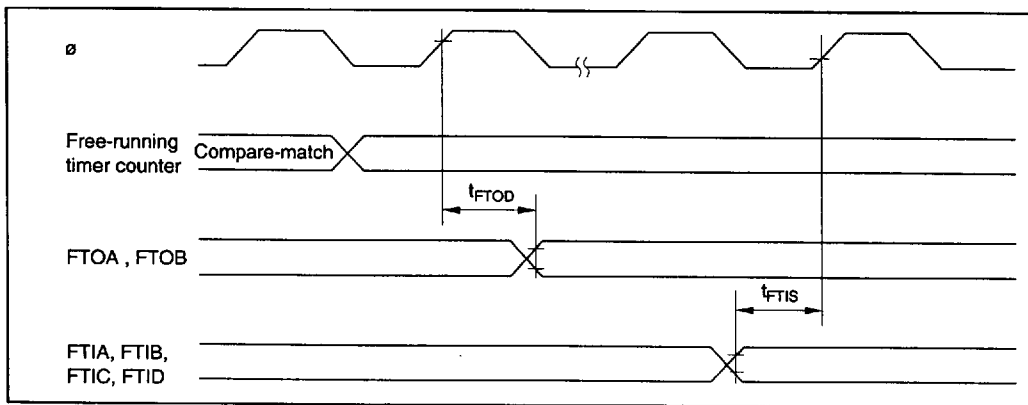

Figure 22-10 Free-Running Timer Input/Output Timing
22.3.3 16-Bit Free-Running Timer Timing	Figures 22-10 and 22-11